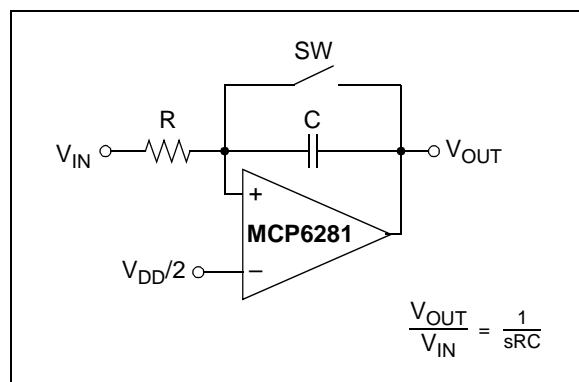

FIGURE 4-8: Miller Integrator.
Analog integrators are used in filters, control loops and measurement circuits. Figure 4-8 shows the most common implementation, the inverting Miller integrator. The non-inverting input is at $V_{DD}/2$ so that the op amp properly biases up. The switch (SW) is used to zero the output in some applications. Other applications use a feedback loop to keep the output within its linear range of operation.